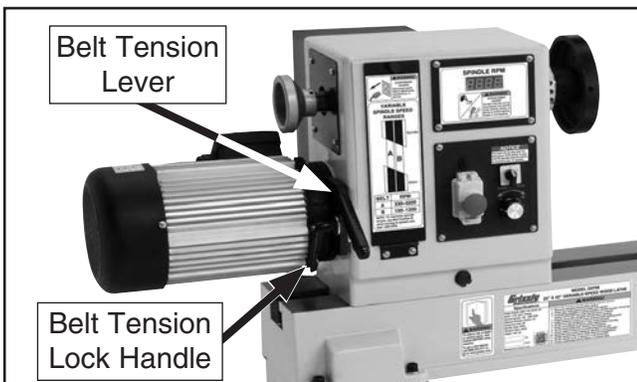

Figure 30. Motor tensioning handle and tension lock handle.
3. Loosen belt tension lock handle (see Figure 30).
4. Use belt tension lever (see Figure 30) to lift motor assembly all the way up, then re-tighten belt tension lock handle—this will hold motor in place while you change belt position.